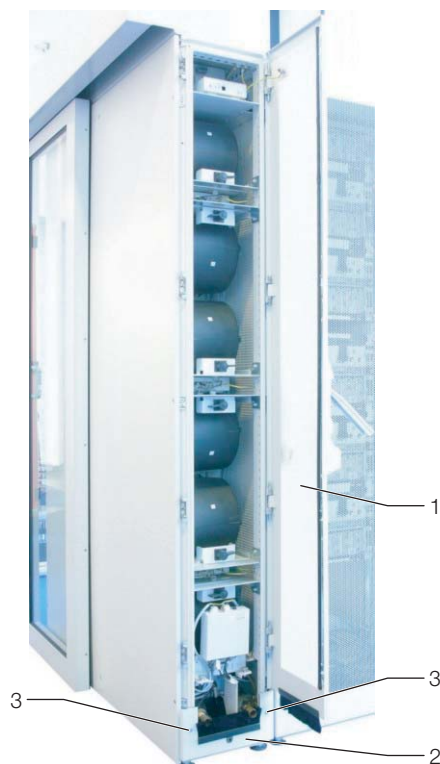

Fig. 19: Liquid Cooling Package Inline – rear
- Loosen both assembly screws from the cover (Fig. 19, item 3) and remove the cover (Fig. 19, item 2).